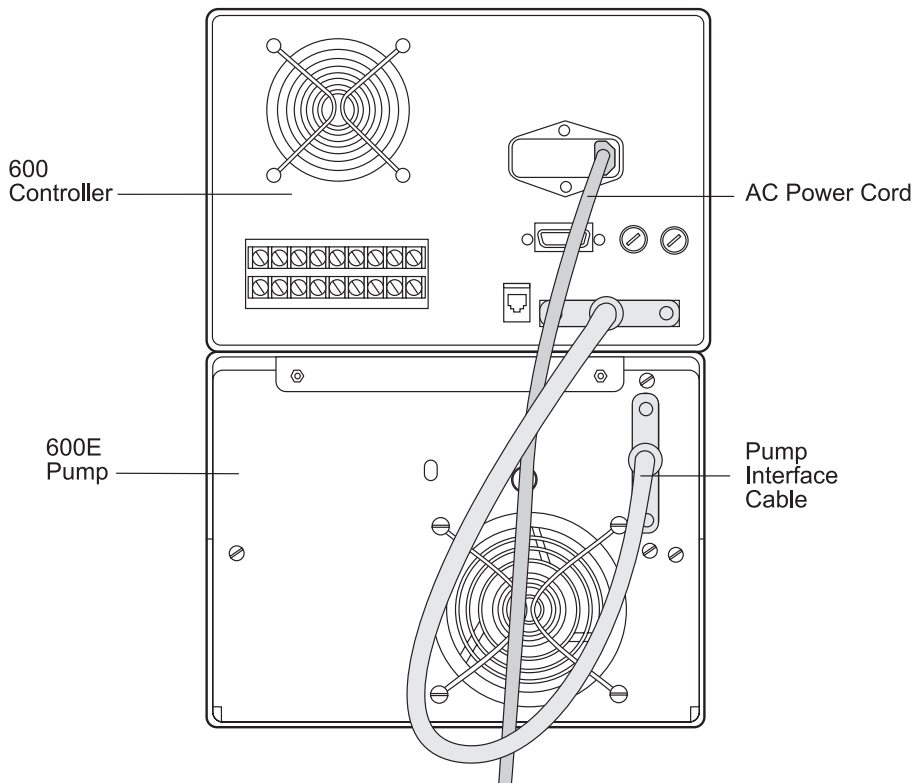

Figure 3-2 Pump Interface Cable and Power Cord Locations
2. Connect the 37-pin interface cable to the pump interface connector on the 600 controller rear panel (Figure 3-2).
1. Insert the D-shaped connector end of the power cord into the power receptacle on the 600 controller rear panel (see Figure 3-2).